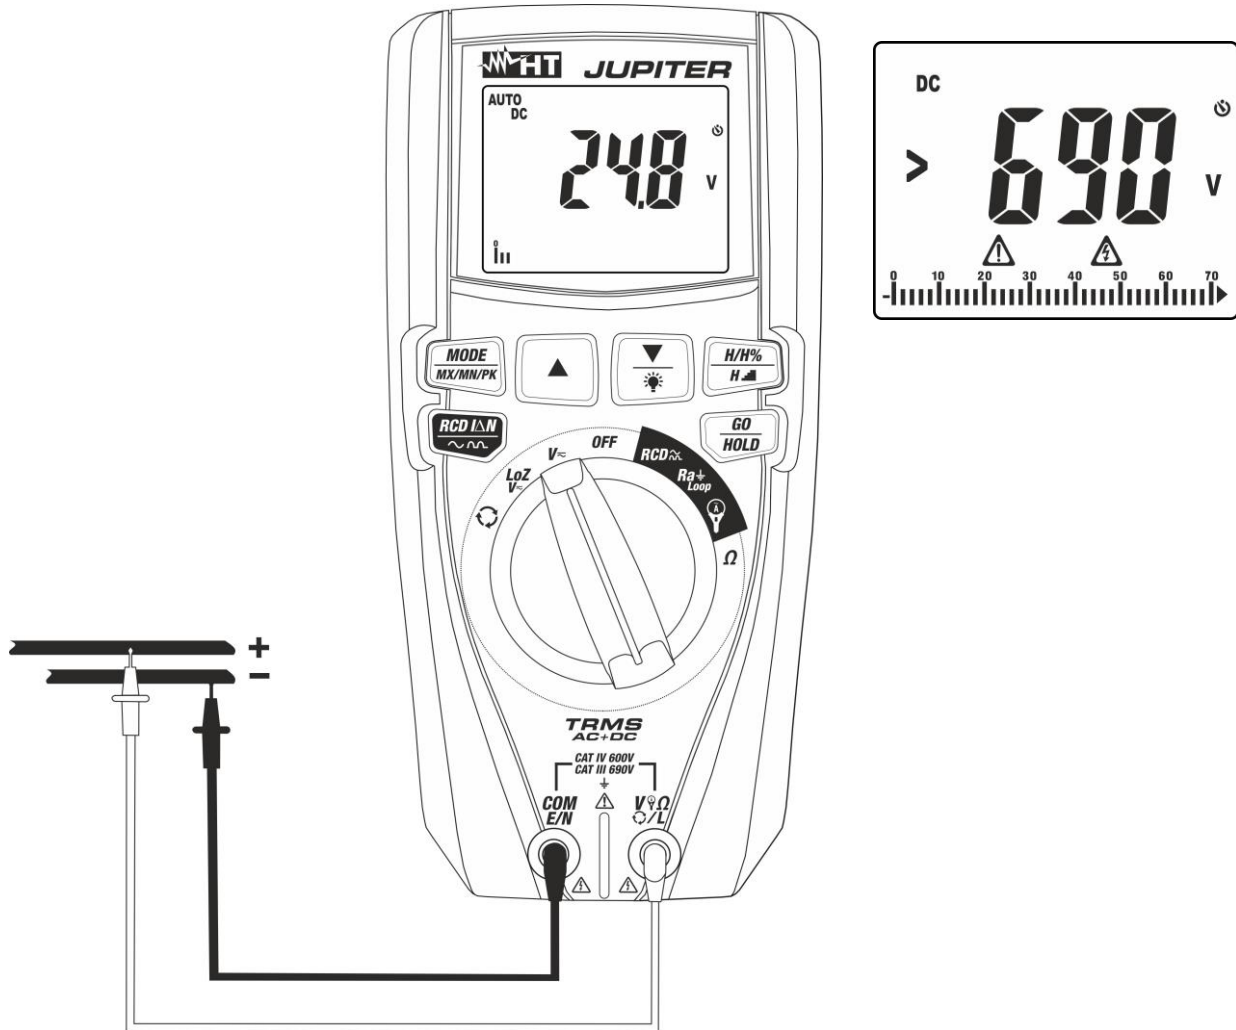
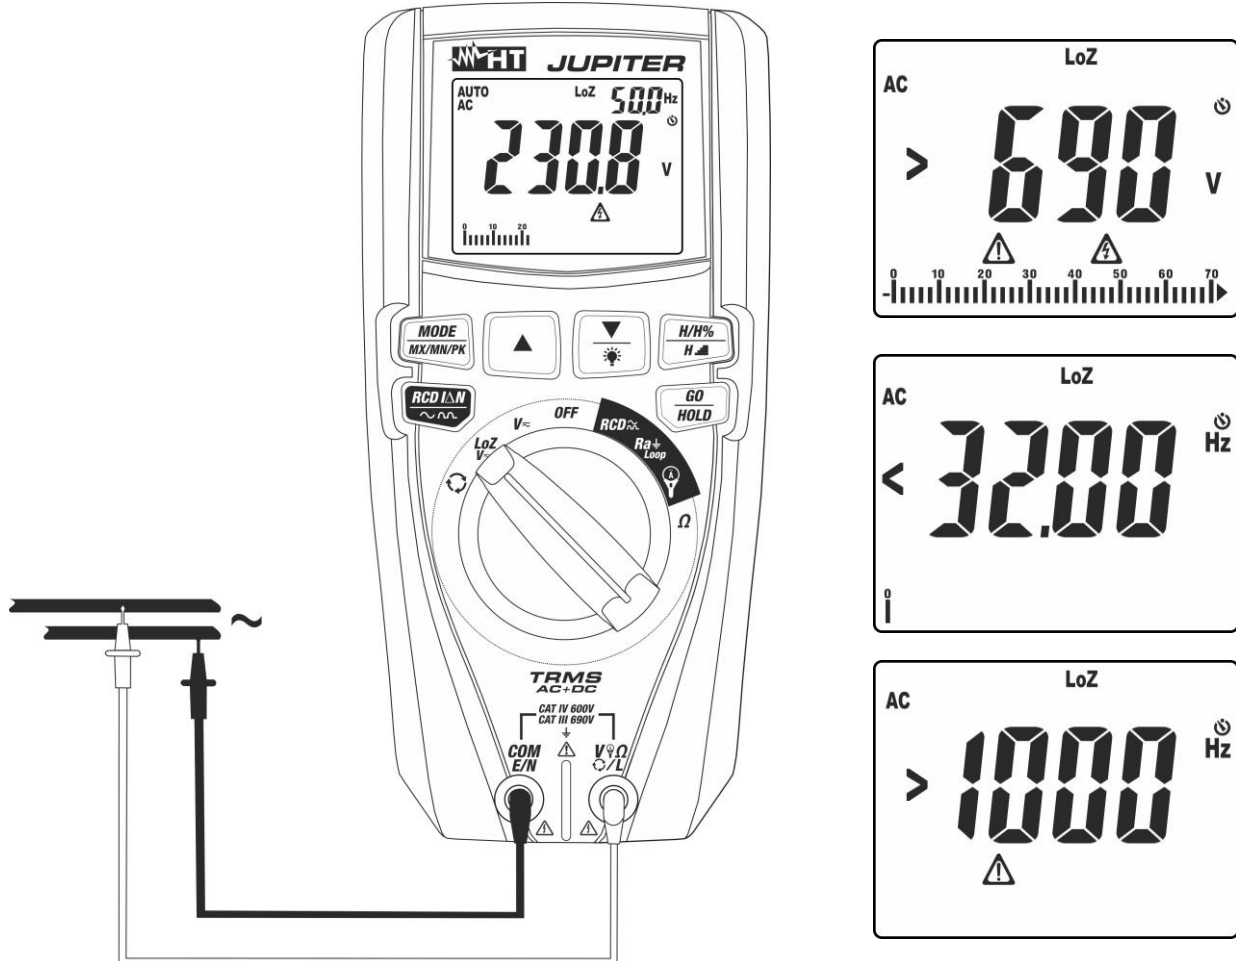

Fig. 8: Use of the instrument for DC voltage measurement
Fig. 10: Use of the instrument for AC/DC voltage measurement with LoZ function
3. Position the red lead and the black lead respectively in the spots with positive and negative potential of the circuit to be measured (see Fig. 8). The display shows the value of voltage.
4. If the display shows the message “>690V” (see Fig. 8), the maximum measurable value has been reached.
5. When symbol “-” appears on the instrument’s display, it means that voltage has the opposite direction with respect to the connection in Fig. 8.
4. Position the red lead and the black lead respectively in the positions of the circuit to be tested (see Fig. 10) for AC voltage measurement or in the positions with a positive or negative potential of the circuit to be tested (see Fig. 8) for DC voltage measurement. The display shows the value of voltage. On the top of the display on the right side, the value of voltage frequency is displayed. Press key **MODE/MXMNPK** to display the value of frequency with a higher resolution.
5. If the display shows the messages “<32Hz” or “>1000Hz” (see Fig. 10), the value of frequency is out of the measuring range **32Hz ÷ 1000Hz**.
6. When symbol “-” appears on the instrument’s display, it means that voltage has the opposite direction with respect to the connection in Fig. 8.